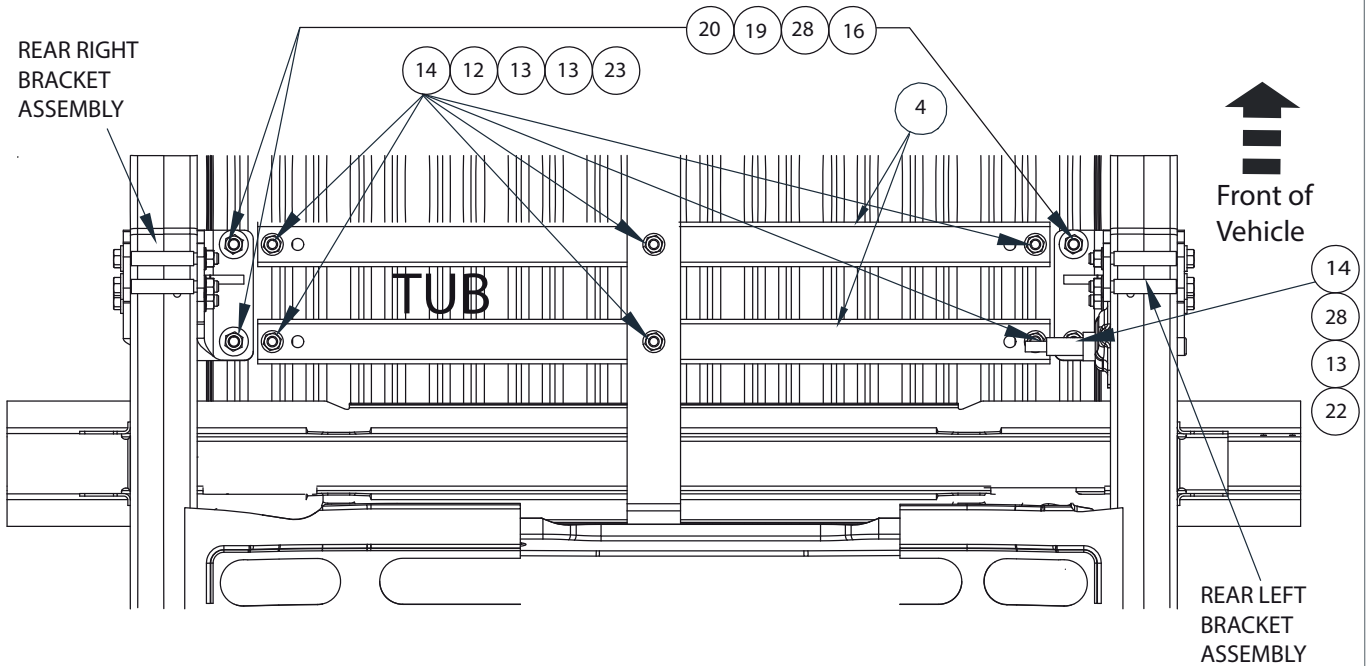

FIGURE 6
11. Looking directly beneath tub, place cross tubes (item 4) in position shown in Figure 6 with (6x)60mm crush tubes (item 12) sitting inside cross tubes as shown in Figure 7.
12. Fasten assembly together using fasteners outlined in Figure 6 following the correct fastener sequence as specified.